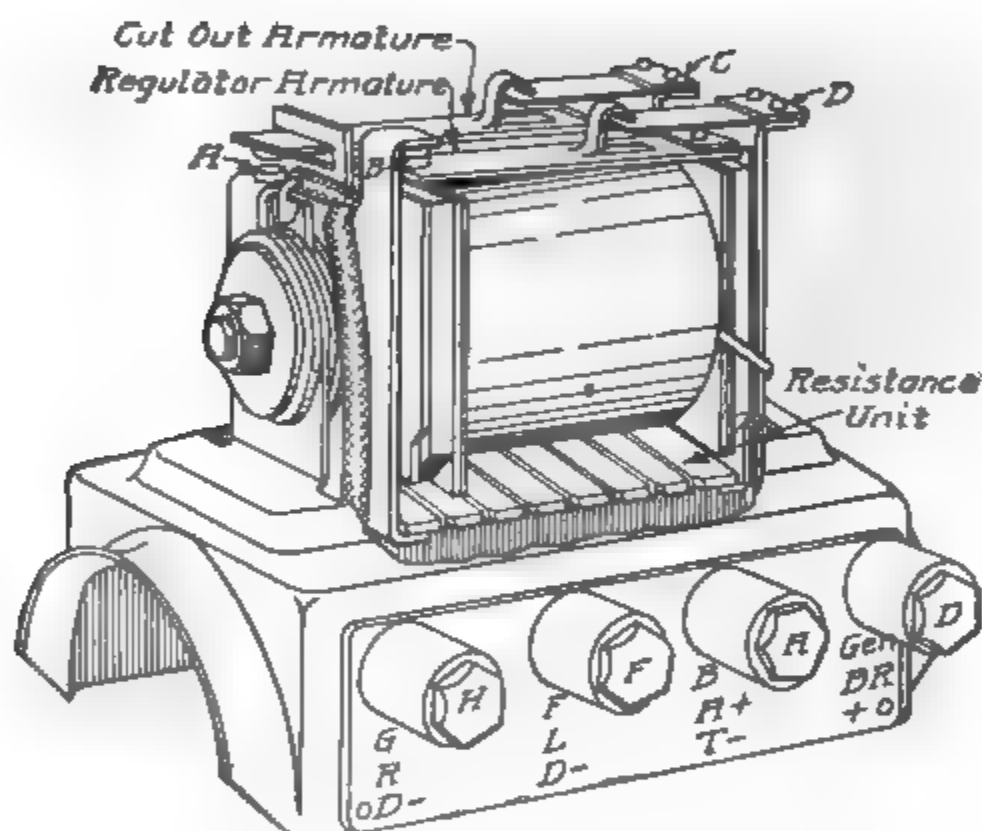

Fig. 292. Heinze-Springfield Current Regulator and Battery Cut-Out
**Generator.** The generator is of the multipolar shunt-wound type (four poles) with brushes spaced 90 degrees apart, bringing both on the left side of the commutator to make them more accessible. The negative, or lower, brush of the generator, Fig. 291, is grounded to the brush holder, which, in turn, is grounded on the generator brush head. From the positive, or upper, brush a wire runs to the terminal GEN. BR.+ of the regulator and cut-out, Fig. 292. From this terminal, the charging circuit leads to the cut-out contacts and through the latter and the series winding to the terminal BAT+ of the regulator cut-out. As the negative brush of the generator is grounded, the negative terminal of the battery and one side of all the lights are grounded. One end of the generator shunt field is grounded inside to the generator frame. The other end comes out through the hole provided for it in the brush head, runs to the terminal FLD of the regulator cut-out, and thence to the contacts of the current regulator if they are closed, or through a resistance if they are open.
is mounted directly on the starting motor, Fig. 292. The regulator side of the relay consists of two contacts *B*, which are normally held together by spring tension so that the charging current does not exceed 10 to 12 amperes. When the voltage rises above a certain value owing to the increased speed of the engine, the regulator armature is drawn down, separating the contacts, and the current must then pass through the resistance unit shown beneath the coil. This keeps the charging current down to the value mentioned.
To adjust the regulator and cut-out, first adjust the regulator side, as the cut-out is dependent upon the regulator adjustment. Before starting the engine, remove the regulator and the cut-out cover, then remove the wire to the terminal "BAT+" and insert an ammeter in the charging circuit at this point, though if there be an ammeter on the dash, it may be used. Start the engine and run it very slowly. See that the regulator contacts are together, Fig. 292. At a speed equivalent to 6 miles an hour or over, the cut-out contacts *A* should close, and with the contacts at *B* closed, the ammeter should show a reading of 4 amperes. If contacts *A* do not close at this point, there may be too much tension on the spring, which may be remedied by bending the spring-holding support upward at *C*. Should the ammeter reading go above 10 to 12 amperes as the speed increases, this is due to the contacts *B* of the regulator not opening as they should. The tension of the armature spring of the regulator should then be lessened by bending the spring-holding support slightly upward at *D*. Note very carefully as the engine speed is decreased that there is enough spring tension on the cut-out armature to open